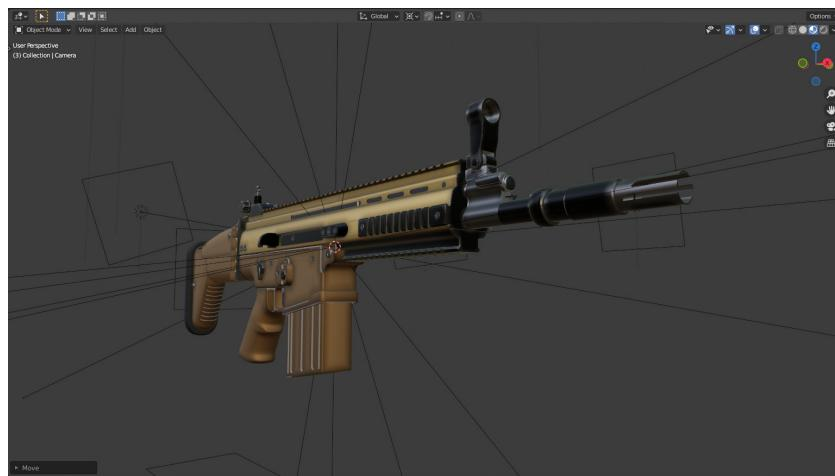

Figure 4.59 – Aligning the view
- Place the 3D view at an angle from which you want to render the scene. In this scene, the lighting is set up best for an angle similar to that of *Figure 4.59*: